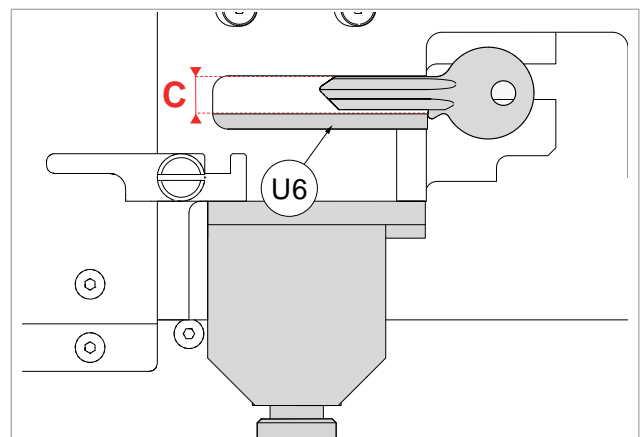

Fig. 111
- 3) Optimal width should be slightly bigger than the width of the stem. **Attention: do not exceed the height of the key stop (Fig. 111).**